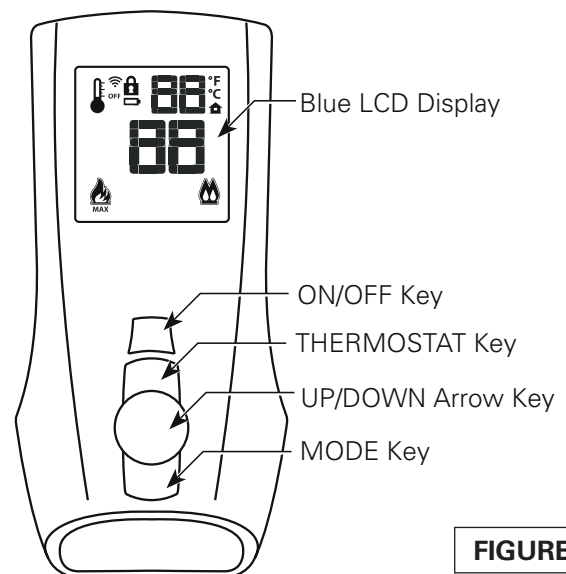
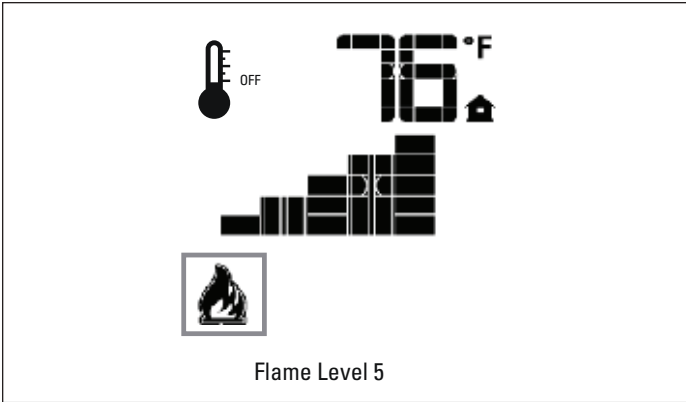

FIGURE 56
FIGURE 57
The Remote allows you to command the functions of your appliance from the comfort of your chair and is configured to control the On/Off primary burner operation, its flame height through six (6) levels, and provides On/Off control of the appliance. **(Figure 56)**
With the system in the "OFF" position, press the Thermostat Key and the Mode Key at the same time. **(Figure 56)** Look at the LCD screen on the Remote to verify that a C or F is visible to the right of the Room Temperature display. **(Figure 57)**
Press the ON/OFF Key on the Remote. The Remote display will show all active Icons on the screen and the appliance main burner will turn on. (Figure 57) A single “beep” from the Receiver will confirm reception of the command.
The system has six (6) flame levels. See Figure 57 for an example. With the system on, and the flame level at the maximum in the appliance, pressing the Down Arrow Key once will reduce the flame height by one step until the flame is turned off.